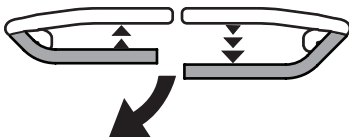

Fig. 25
1. To turn to the left while traveling in reverse, move the left drive control lever forward of the right drive control lever (Fig. 25).